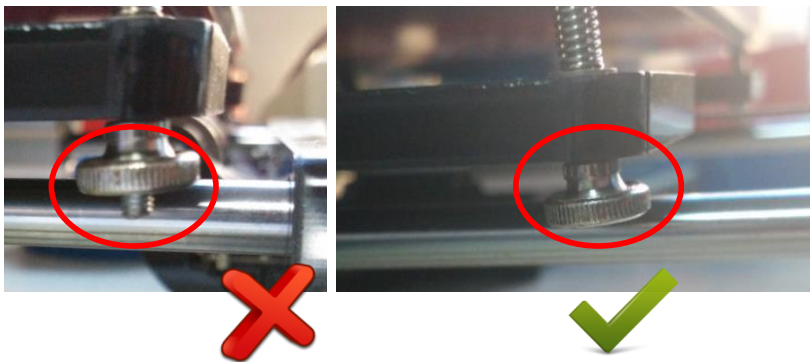

Fig 3: set nut height
2. Adjust the 4pcs nuts from the platform, keep them leveling (*fig3*).